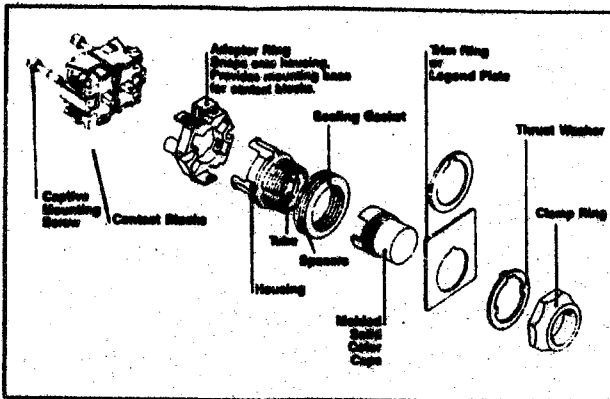

Fig. 1 Pushbuttons
1. Remove clamp ring, thrust washer, and trim washer. (See Fig. 1)